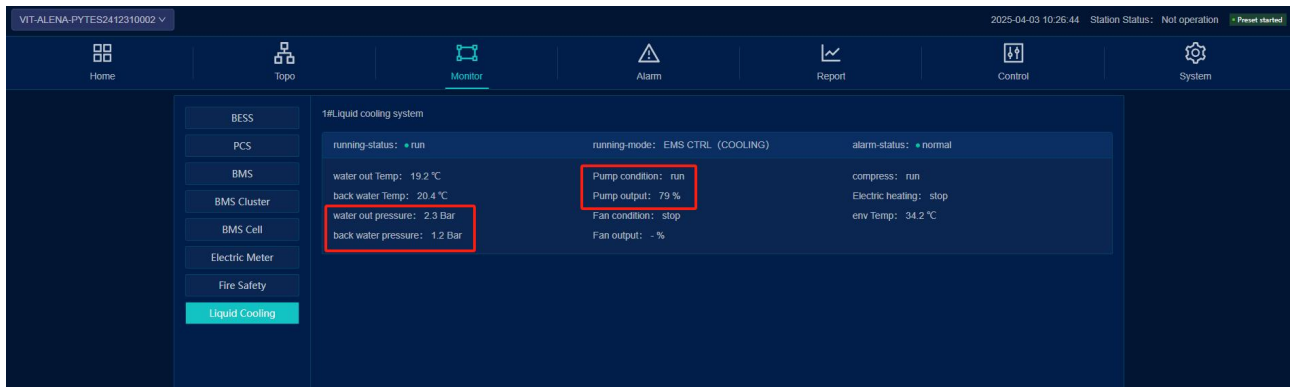

Figure 7.6 Status of Liquid Cooling Machine
Step 5: Turn on the liquid cooler through cloud control when the exhaust pipe starts to have coolant return, as shown in Figure 7.6. Add liquid process pay attention to the liquid cooler water pressure, water pressure > 2.5bar suspend the start of the water pump, until the pressure drops to 1bar when restarted.